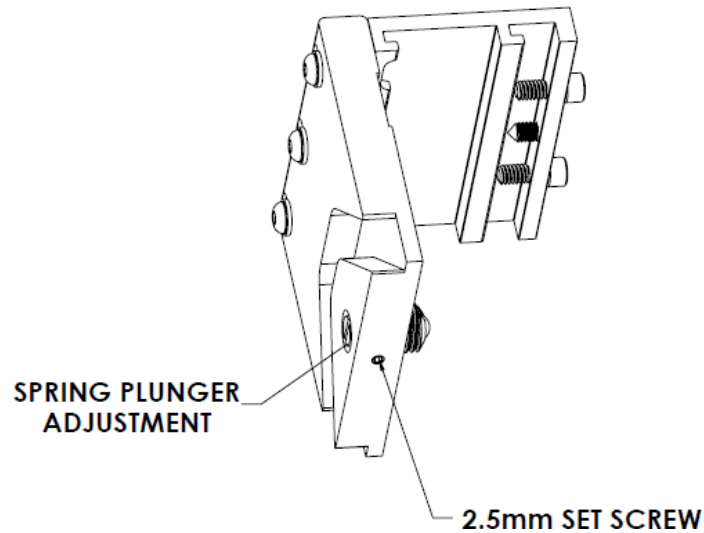

Figure 101: *Adjust the Threaded Spring Plunger*
- To adjust the threaded spring plunger position, loosen the 2.5mm set screw on the bottom side of the parallel track TGB (Figure 101). The threaded spring plunger can then be adjusted towards or away from the transition gate gantry plate. Lock the plunger back into place by tightening the 2.5mm set screw.